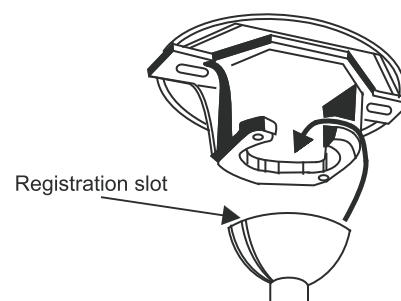

Fig 10
Step 7. Place the downrod ball into the hanger bracket socket.(Fig.10)